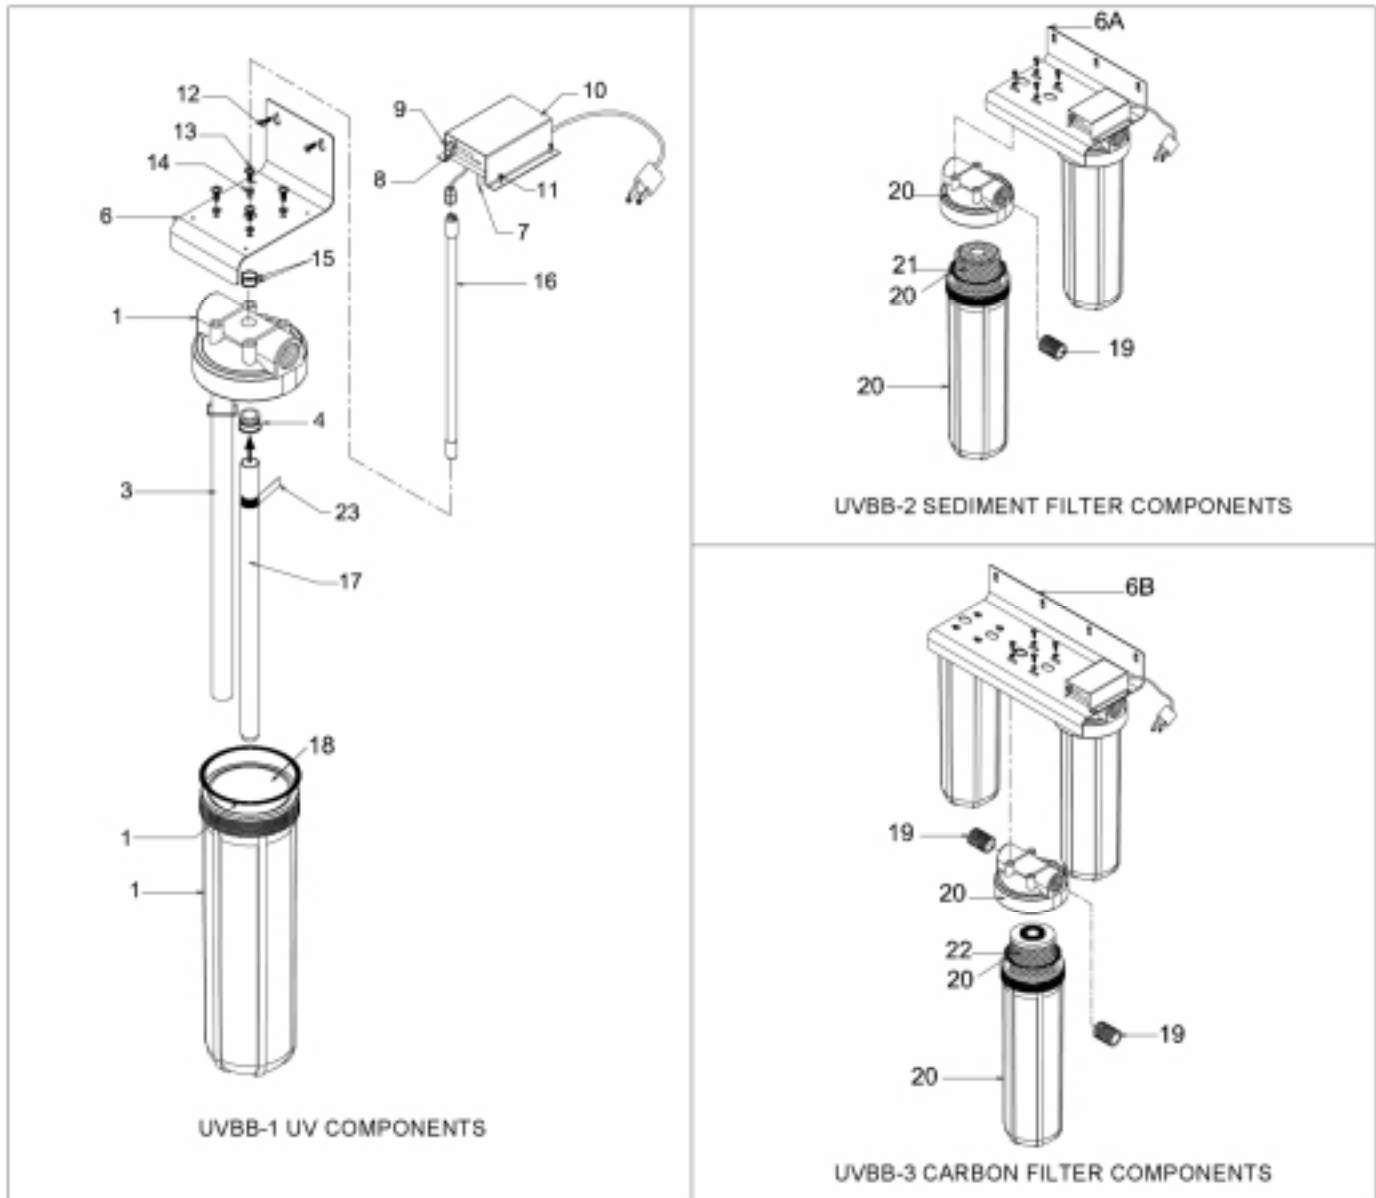

Figure 3 Exploded Schematic, PURA UVBB Series
NOTE: All Items refer to Figure 3.
1. **For UVBB-2 and UVBB-3 Models only:** Remove Sump (Item 1) from Filter Head (Item 20). Install Filters (Items 21 and 22) as shown in Figure 3. Install sump onto filter head.
CAUTION: Verify that inlet and outlet ports are connected to appropriate inlet/outlet pipes (see Figure 3).